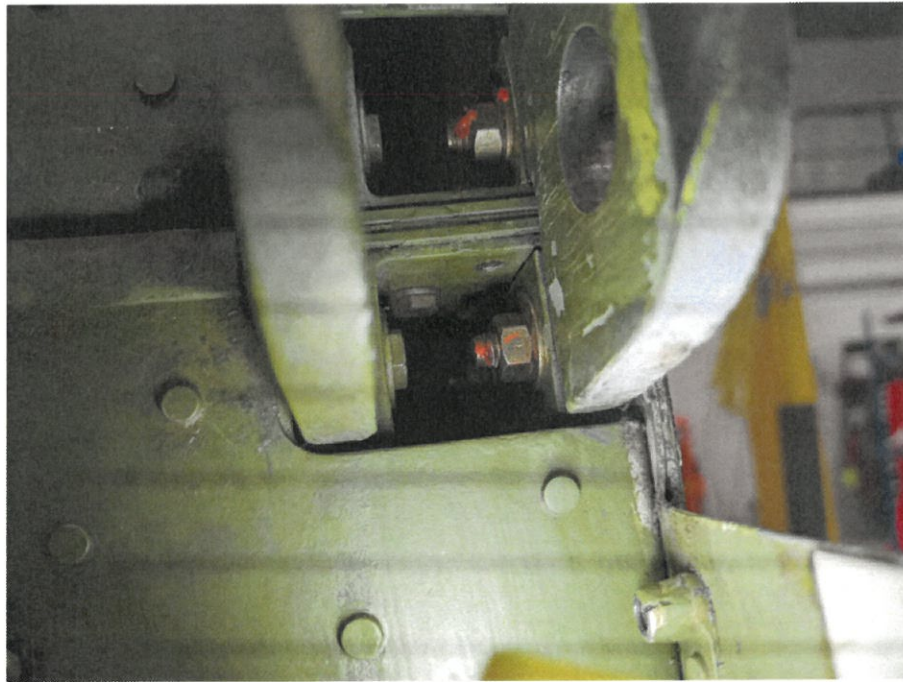

Fig. No. 5 (S/N 0682)
- 3) The sheared head of the technological rivet connecting the lower and upper plate of the main wing attachment point was found (see Fig. No. 5 and No. 6.).